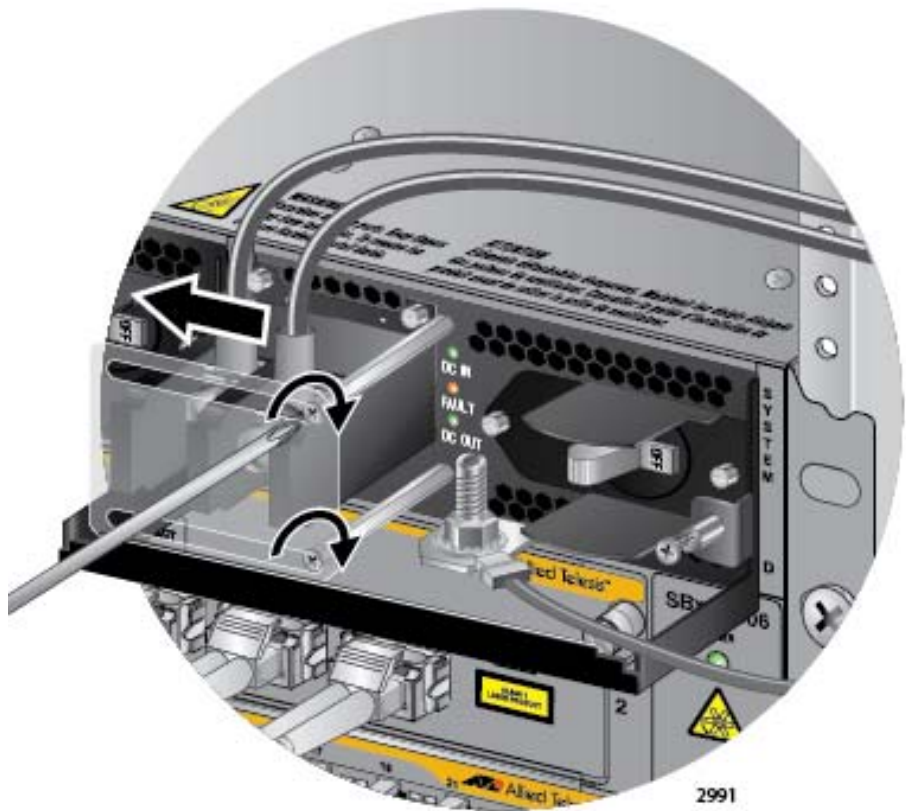

Figure 114. Closing the Plastic Cover over the Terminal Connectors
8. Slide the plastic cover to the left and lightly tighten the two screws with a #1 Phillips-head screwdriver to secure the cover. See Figure 114 on page 175. You might need to slightly lift the locking handle to access the bottom screw.
6. Slide the plastic cover to the left and lightly tighten the two screws with a #1 Phillips-head screwdriver to secure the cover. See Figure 114 on page 175. You might need to slightly lift the locking handle to access the bottom screw.